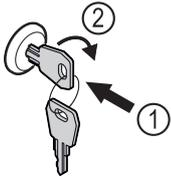

Fig. 138
- ▶ Insert the key. Fig. 138 (1)
- ▶ Turn the key clockwise by 90°. Fig. 138 (2)